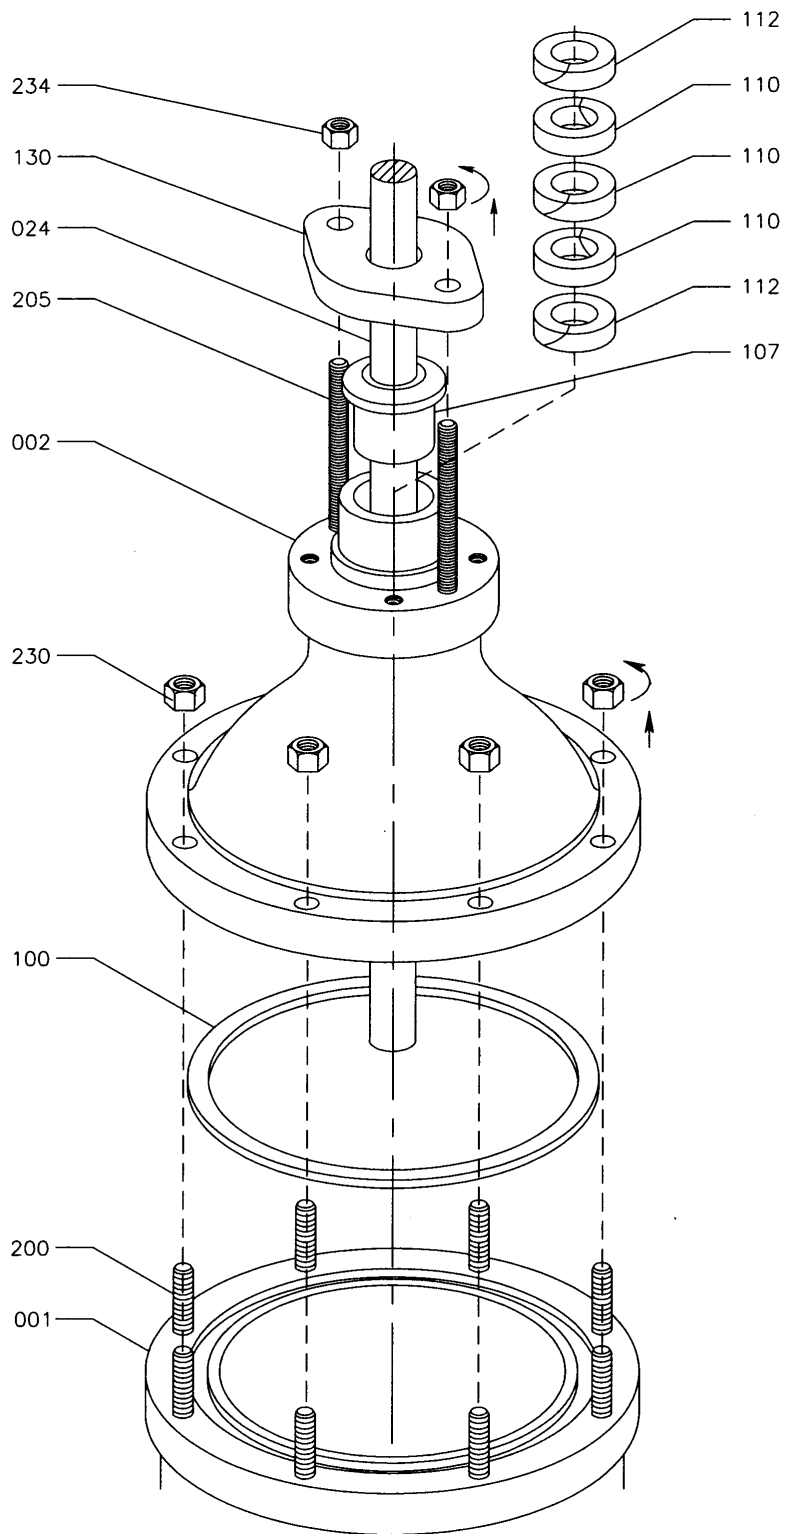

Figure 13
6.2.1 Remove the gland nuts (234), the capscrews (217)/yoke studs (201), and yoke nuts (231) holding the yoke (011) to the bonnet (002). The yoke, gland flange and gland may now be lifted off the bonnet. Be careful to not damage the stem (See Fig. 13). For appropriate yoke configuration, reference customer certified assembly drawing.